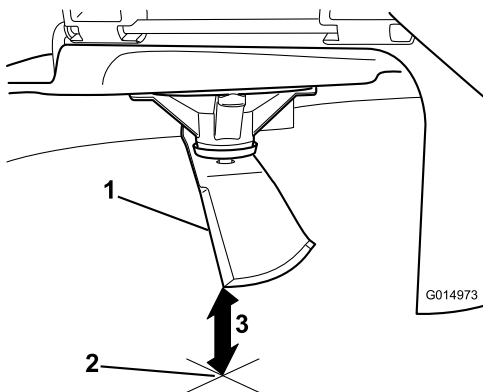

Figure 78
3. Measure from the tip of the blade to the flat surface (Figure 78).